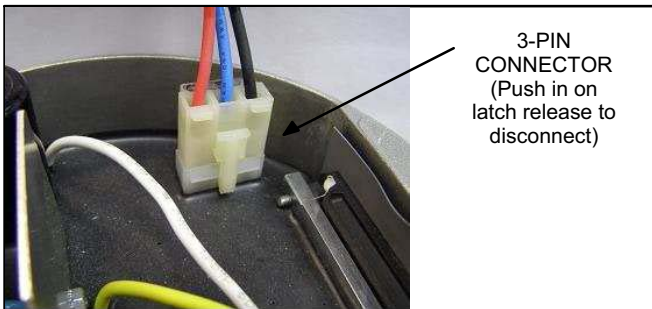

Figure 3. 3-Pin Connector
- 7 - Remove two hex head screws and carefully rotate the control module to gain access to the 3-pin plug. See figure 3. Squeeze the plug release latch and gently pull the plug out of the control module. **Do not pull on the wires.**